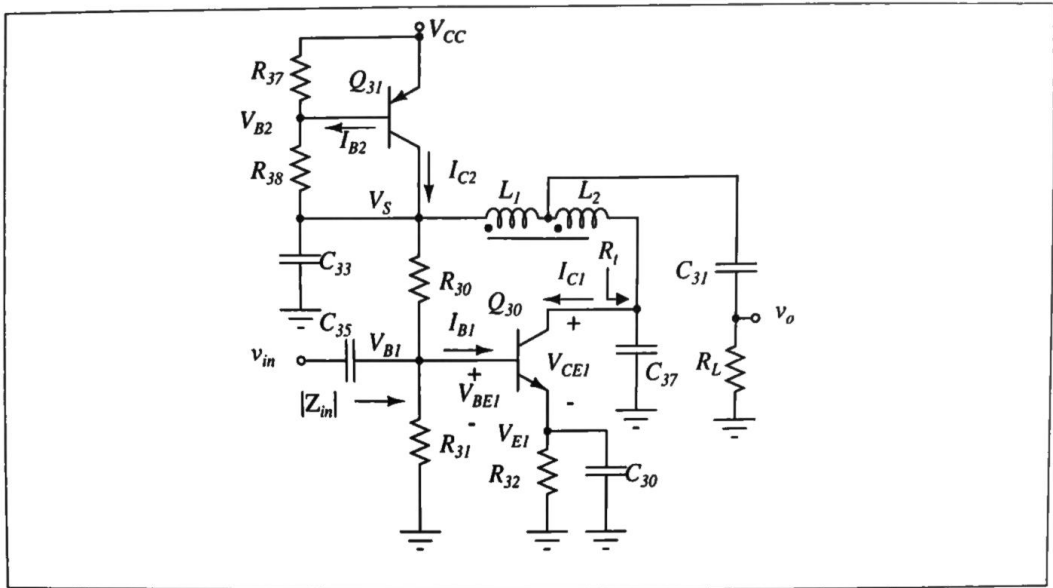

Figure 1: Schematic of transmitter amplifier.
1. A tuned RF amplifier that acts as the transmitter amplifier of TRC-11 can be built using a BJT, Q30. BJT to be used is a more powerful NPN transistor, 2N2222. Inspect the datasheet given in 382. It can handle currents up to 600 mA and voltages up to 40 V. It can dissipate up to 625 mW power at room temperature. These values are considerably high compared to KSP10 used earlier. Refer to the circuit given in Fig. 1. It is a Class-A power amplifier intended to drive an antenna. R_L is the load to be driven (it is actually the real part of the antenna impedance to be discovered later). The power delivered to R_L is the transmitted RF power into the air when the antenna is used. Actually, the output power is intentionally kept low, not to violate local RF transmission limits in this frequency band. C_{31} is a DC block capacitor. L_1 , L_2 and C_{37} form an impedance transformation network, that transforms R_L into an optimal impedance for the transistor.